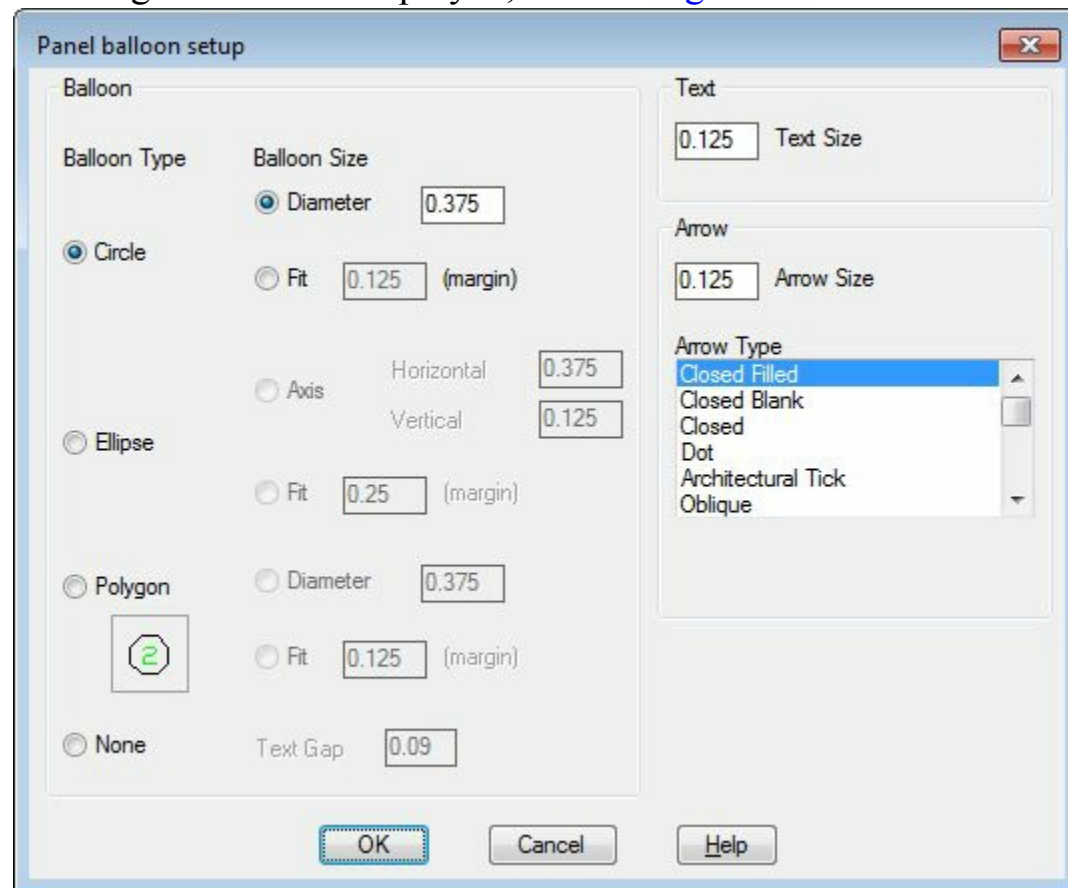

Figure-17. Panel balloon setup dialog box
- Enter **S** at the command prompt to specify parameters related to balloon. The **Panel balloon setup** dialog box will be displayed; refer to Figure-17.